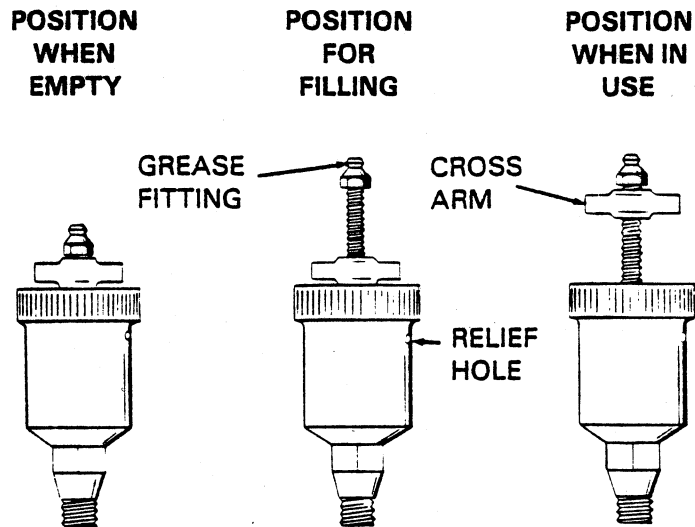

Figure 5. Automatic Lubricating Grease Cup
Before removing the seal assembly, turn the cross arm on the seal grease cup (12) clockwise until it rests against the cover (see figure 5). This will prevent the grease in the cup from escaping after the seal is removed.
Fill the seal grease cup through the grease fitting (see figure 5) with a good grade of No. 2 pressure gun grease until grease escapes from the relief hole. Turn the grease cup arm counterclockwise until it is at the top of the stem; this will release the spring to apply grease to the seal.